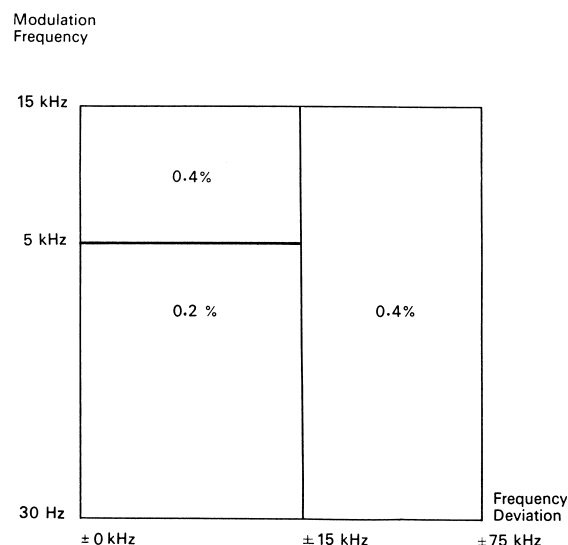

Fig.E4. Distortion for frequency deviation measurements.
14) Read the modulation deviation. Check whether the reading is the same for both peaks of modulation: a difference indicates distortion of the modulation envelope. See Fig.E4, and refer to SECTION B - SPECIFICATIONS under "FM MODULATION - Distortion".